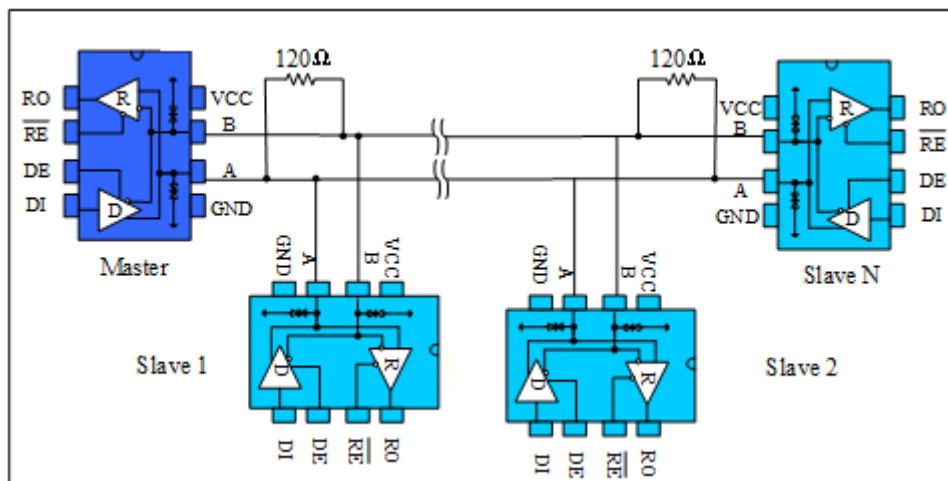

Figure 9 Bus type RS485 half duplex communication network
3.1 Bus Networking: SN65HVD75 RS485 transceiver is designed for bidirectional data communication on multi-point bus transmission line. Figure 9 shows a typical network application circuit. These devices can also be used as linear repeaters with cables longer than 4000 feet. In order to reduce reflection, terminal matching should be carried out at both ends of the transmission line with its characteristic impedance, and the length of branch lines outside the main line should be as short as possible.